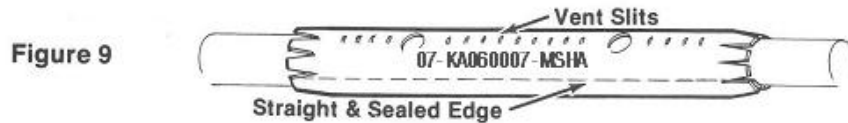

Figure 9
7.2 With cable straight, center mold over repair area with vent slits on top (printing on mold should be readable). Wrap snugly around, tucking one edge under. (Figure 9)